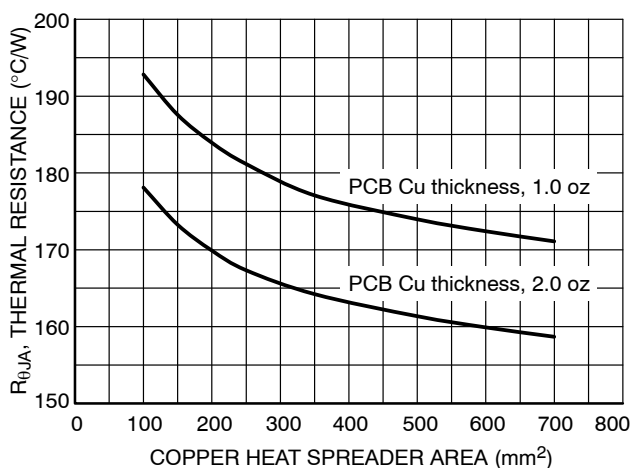

Figure 42. RθJA vs. PCB Copper Area (SOIC-8)
Since TJ is not recommended to exceed 150°C, then the NCV8768C soldered on 645 mm2 single layer PCB, 1 oz copper area, FR4 can dissipate up to 0.72 W in SOIC-8 and 1.48 W for SOIC-8 EP package when the ambient temperature (TA) is 25°C. See Figures 42 and 43 for RθJA versus PCB area. The power dissipated by the NCV8768C can be calculated from the following equations: